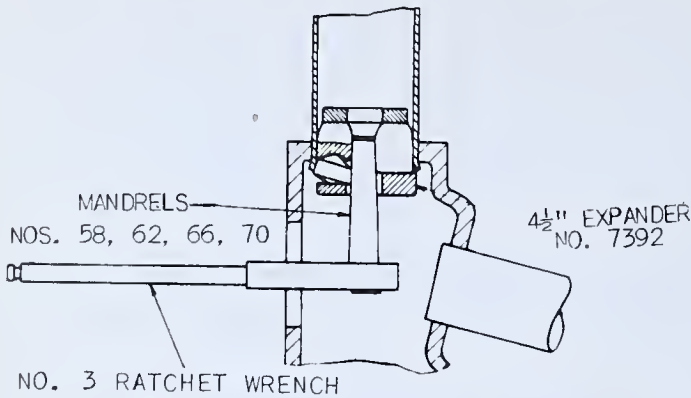

FIG. 522 — *Expanding Tube End in Corner Box*
| 3. Expander No. 7392, Fig. 522               | 8. Folding rule                          |
| 4. Mandrels Nos. 58, 62, 66 and 70, Fig. 522 | 9. Choker                                |
6. Insert mandrel No. 58 and attach No. 3 ratchet wrench as shown in Fig. 522.